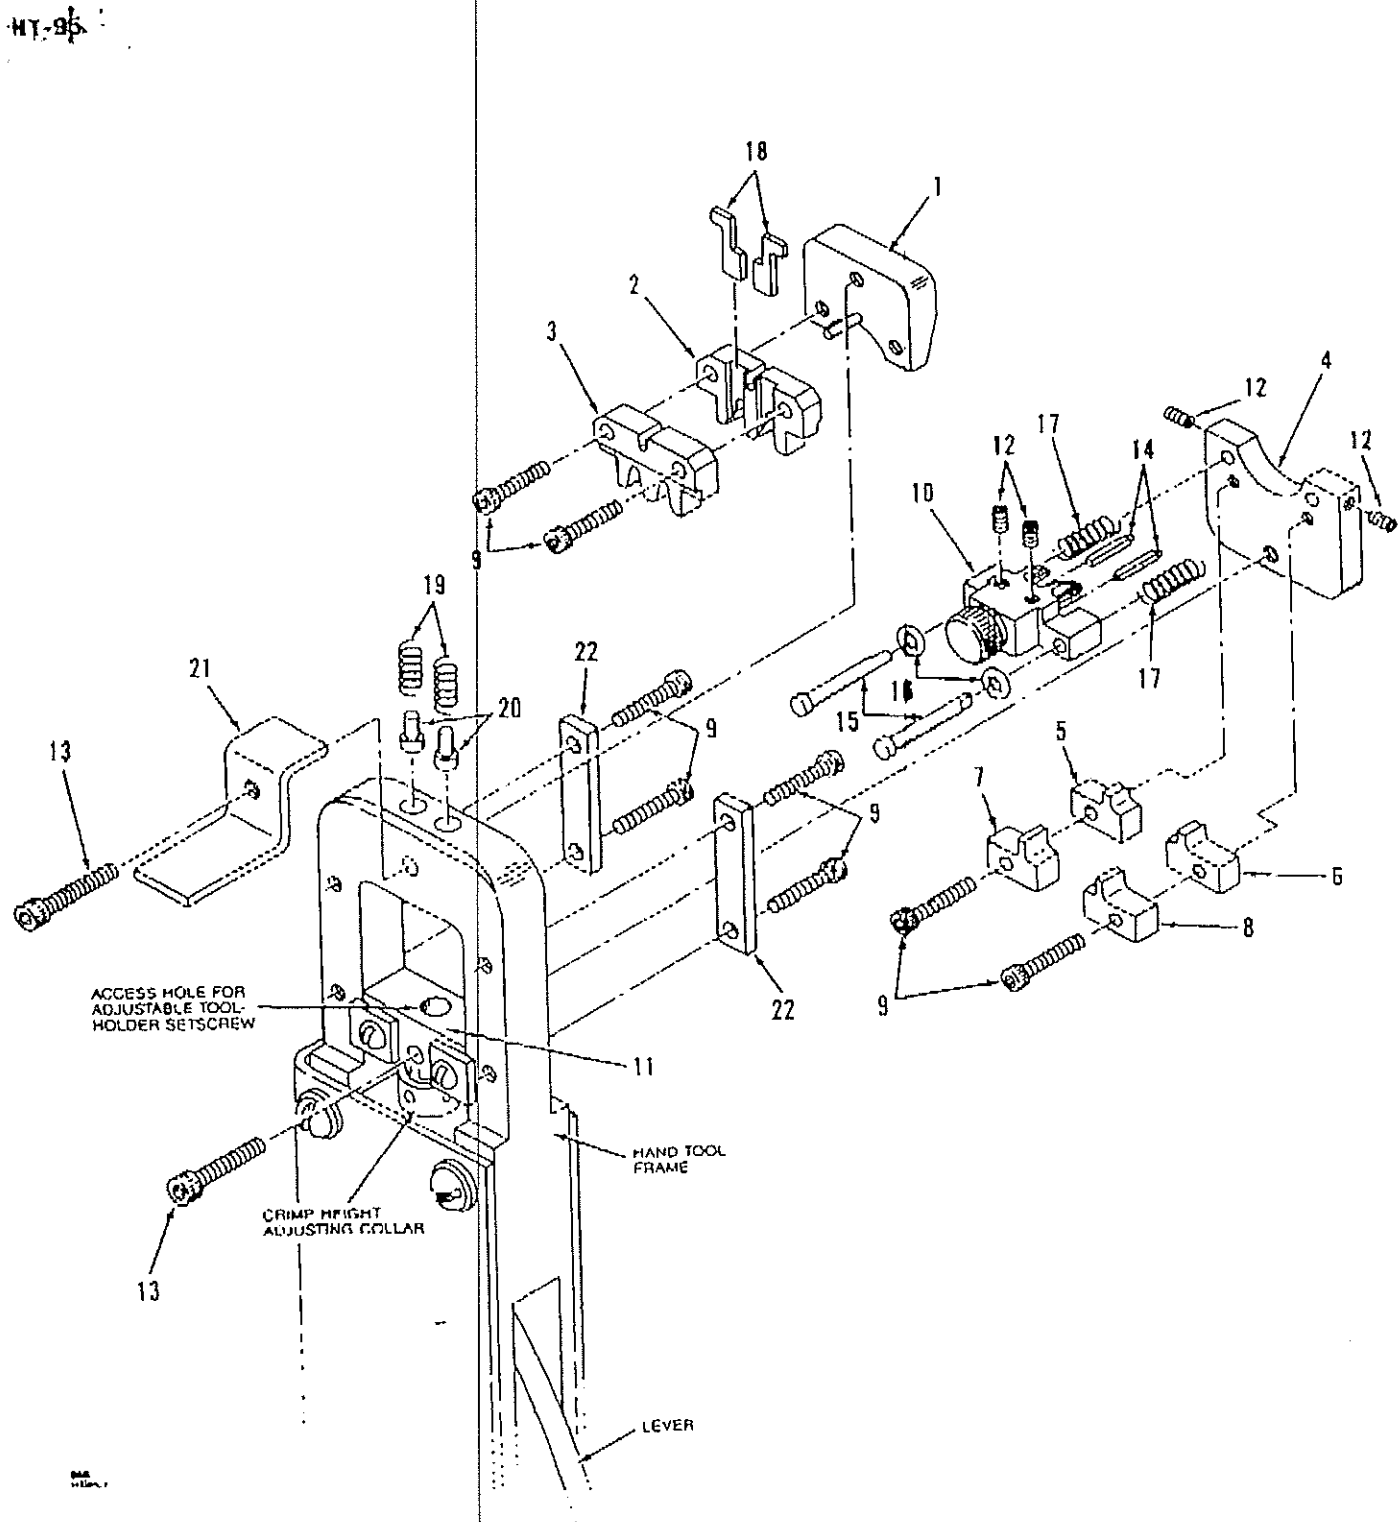

Figure 15. HT-95 Hand Tool Parts
B. Wire and Insulation Barrel Crimpers and Tonkor Replacement (see figure 15)
1. Loosen but do not remove at this time, the two 4-40 cap screws (9) that secure the crimpers to the crimper holder (1).
2. Remove the 6-40 cap screw (13) from the crimper holder (1). Then remove the spring retainer (21) and the crimper holder (1) with crimpers attached.
3. Remove the two tonkor springs (18) and the two spring guides (20) from the hand tool frame. This can be accomplished by tilting the hand tool down.
4. Remove the two 4-40 cap screws (9) that secure the crimper holder (1).
5. Remove the crimpers (2 and 3) and tonkors (18) from the crimper holder.
6. Remove the damaged crimper(s) (2 or 3). The top crimper is the wire barrel crimper (3).
2. Insert tonkers (18), with the top tabs facing outward, into the slots between the wire and insulation crimpers.
3. Place and hold the crimper assembly into the hand tool on the same side as the anvil holder (4). Make sure that the tonkers (18) go into the holes in the top of the hand tool frame.
4. Place spring guides (20) into the holes in the top of the hand tool frame, then insert the springs (19) into the holes so that the springs slip over the shoulder of the spring guides.
5. Place spring retainer (21) over tonker springs (19). Make sure springs are fully compressed, then loosely attach the spring retainer (21) and the crimper holder (1) to the hand tool with a 6-40 cap screw (13).
6. To align the tooling, close hand tool completely and hold it in its closed position. Tighten the two 4-40 cap screws (9) to secure the crimpers to their holder. Then tighten the 6-40 cap screw (13), which secures the crimper holder to the hand tool frame.
C. Holding Pin Replacement (see figure 15)
These are parts which DuPont considers practical for the user to stock for replacement. Recommended spare parts for the hand tool are specified in bold type in the parts list for figure 15.
Parts List for Figure 15. HT-95 Hand Tool Parts